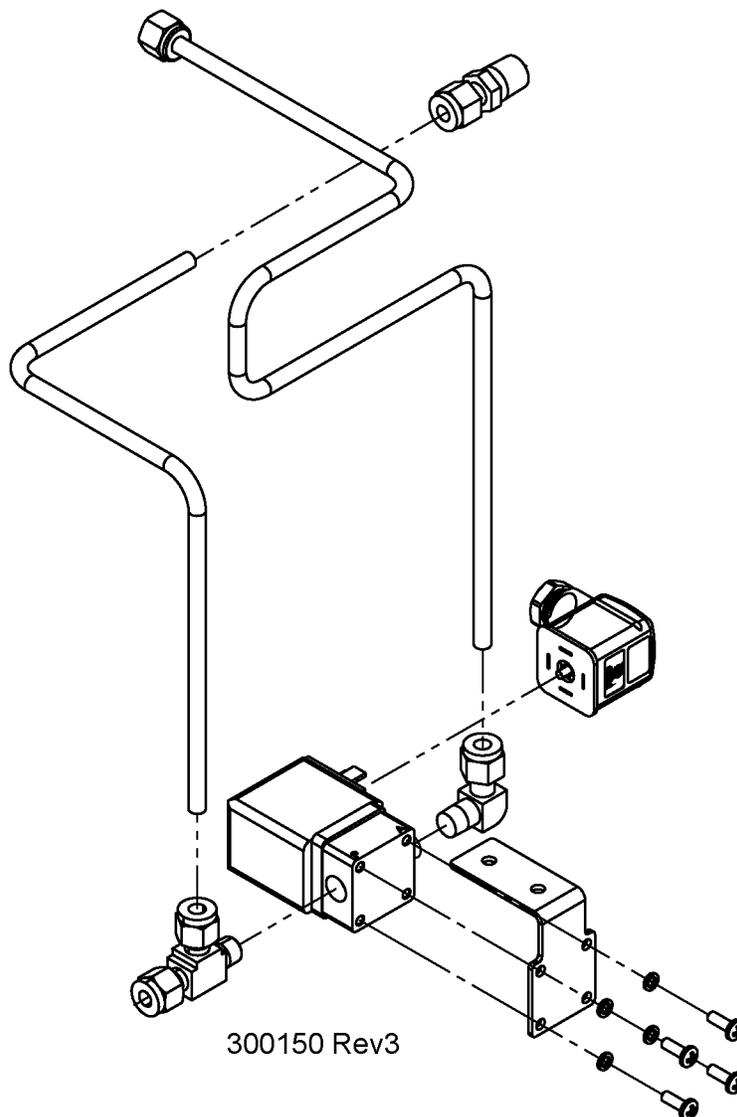

Figure 30 – Solenoid Valve Fuel System Connections
10. On the new solenoid valve, loosen the 5/8" retaining nut with a wrench and orient the head as shown in Figure 30. Take note of the P and A markings on the valve body. The P port must be on the fuel system side of the valve, and the A port must be on the burner side.